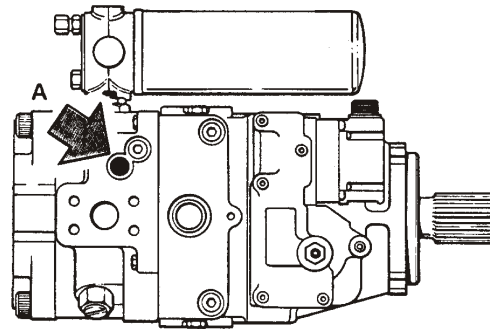

Figure 5-25 Gauge Port
3. Remove the 1/4" JIC cap on gauge port (A) (see Figure 5-25).
4. Connect a 600 psi gauge onto port (A).